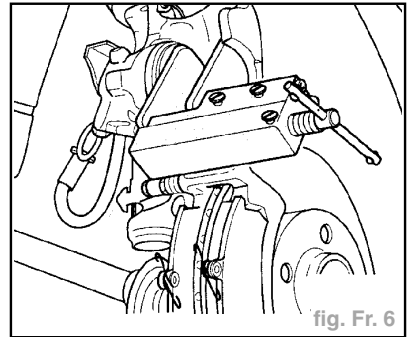

fig. Fr. 6
- Repousser le piston (fig. Fr. 6).